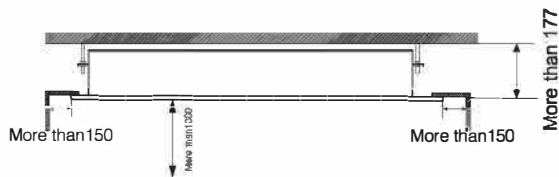

Figure 1
(1) Select the installation location that meets the following conditions and get approval of the customer.
- Where a space sufficient for installation and service can be ensured. (**Refer to Figures 1 and 2**)